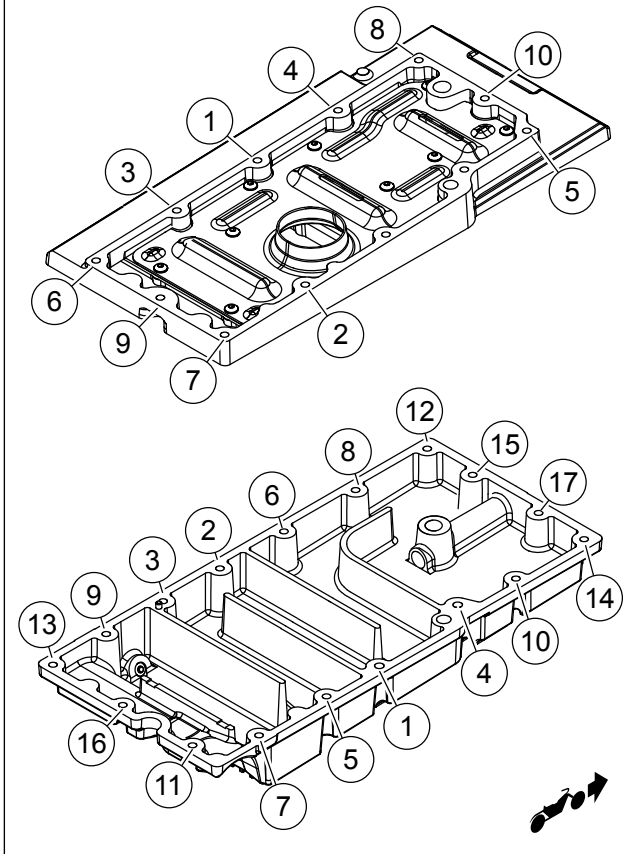
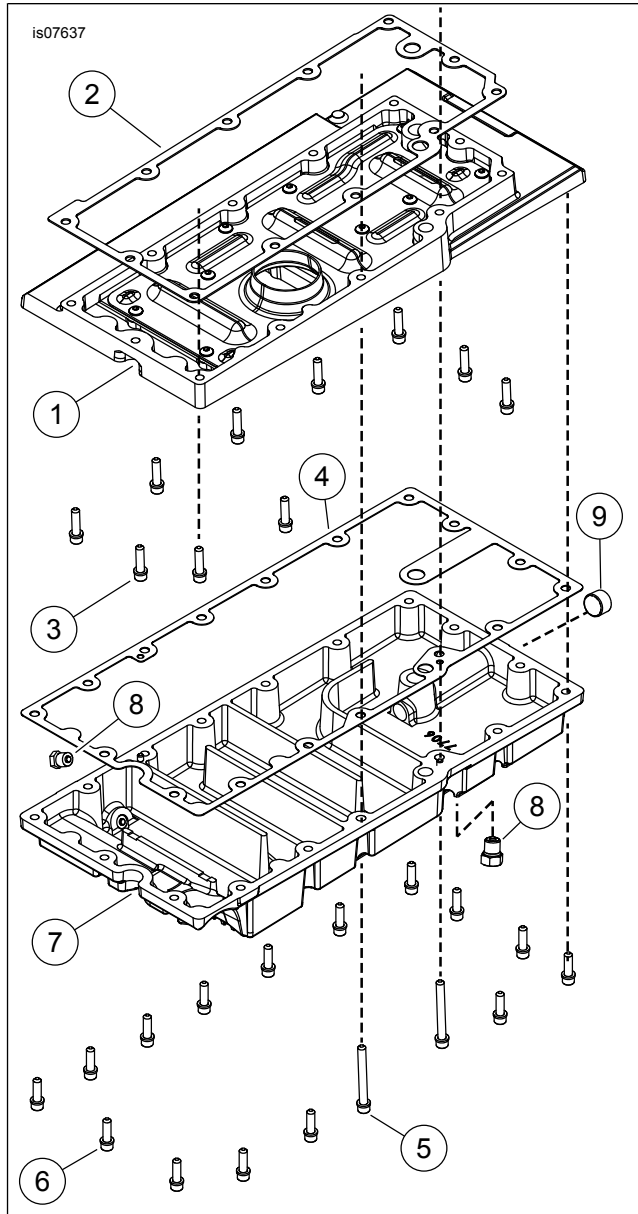

Figure 1. Upper and Lower Oil Pan Torque Sequence
Figure 2. Service Parts: High Capacity Oil Pan
3. See Figure 2. Apply a thin coat of Hylomar Gasket and Thread Sealant[®] to the top flange of the upper oil pan (1).
4. Place gasket (2) on upper oil pan (1) flange. Allow sealer to dry until tacky.
5. Position upper oil pan with gasket on bottom of transmission. Loosely install fasteners (3).
6. Verify that the gasket is properly positioned and tighten oil pan fasteners (3) to 14.9–17.6 N·m (132–156 **in-lbs**) following sequence shown in Figure 1.
7. If removed, install tapered plug (9) using Loctite 565 Thread Sealant. Tighten to 24.4–29.8 N·m (18–22 ft-lbs).
8. Apply a thin coat of Hylomar Gasket and Thread Sealant[®] to the lower oil pan (7) flange.
9. Place gasket (4) on lower oil pan (7) flange. Allow sealer to dry until tacky.
10. Position lower oil pan with gasket on bottom of upper oil pan and loosely install fasteners (6).
11. Loosely install two fasteners (5).
12. Verify that the dowels are engaged and the gasket is properly positioned. Tighten lower oil pan fasteners (5) and (6) to 14.9–17.6 N·m (132–156 **in-lbs**) following sequence shown in Figure 1.